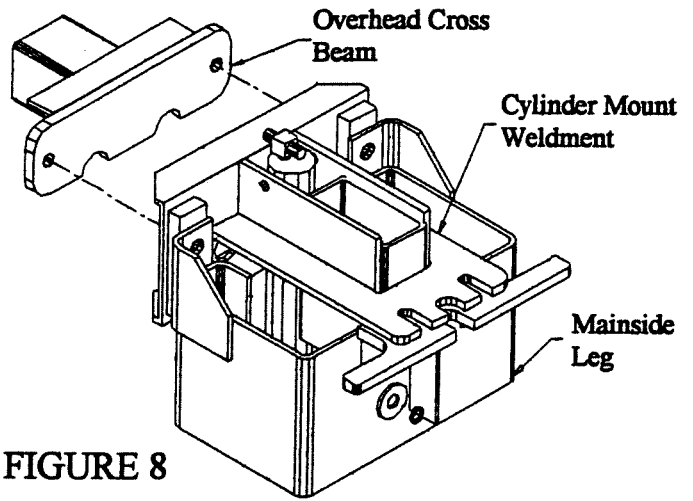

FIGURE 8
13. Raise the overhead beam and secure it to the top of the legs using the two 1/2 x 2-3/4 NC bolts that already secure the front of the cylinder mount weldment to the leg. See Figure 8 on the following page.